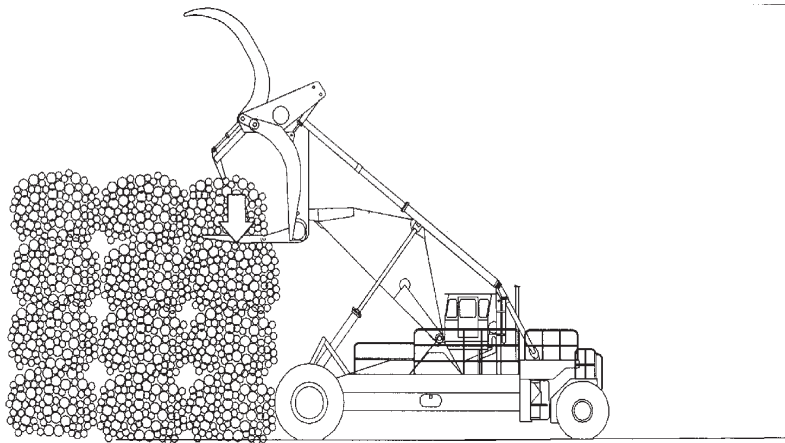

Fig. 5-22
3. Always stack bundles in vertical piles- not interlocking. This will make retrieval much easier. Also, when stacking one bundle on top of another, press down on the lower bundle with the carriage. This will flatten the lower bundle and make the deck much more stable and retrieval easier. See Fig. 5-22.